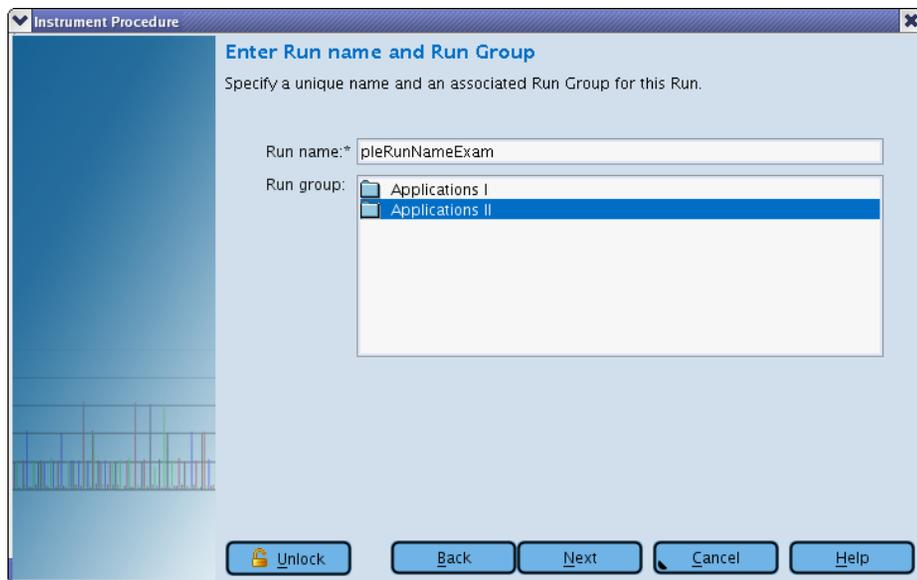

Figure 22: The Run Wizard's third window: Enter Run name and Run Group
- This opens the Run Wizard's third window: Enter Run name and Run Group (Figure 22).